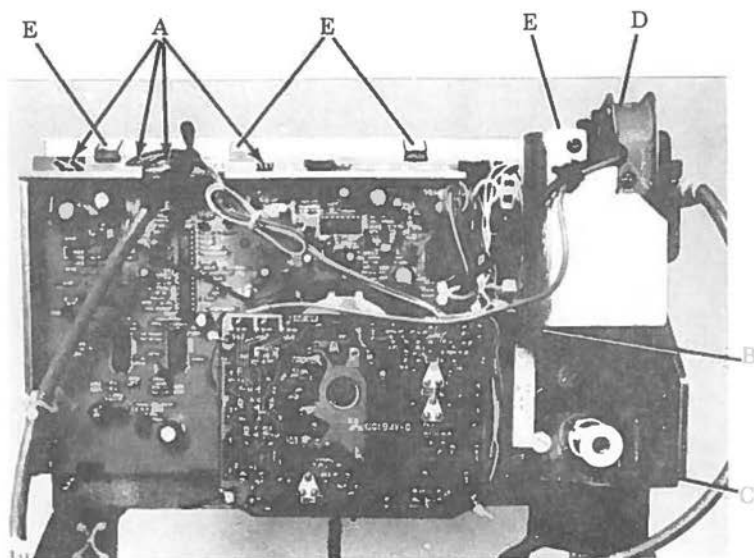

Figure 6-17 Color Deflection Board Removal
The color deflection board can be removed with the CRT assembly still fitted into the computer, to do so refer to Figure 6-17 and use the following procedure.
8. Push the plastic clips (E), see figure 6-17 out of the frame, remove, and lift out the deflection board.
4. Break the adhesive bond (A) from the end of the CRT tube and the small PCB, disconnect the small PCB from the end of the CRT tube.
6. Disconnect connector B from Power Supply, see Figure 6-17.